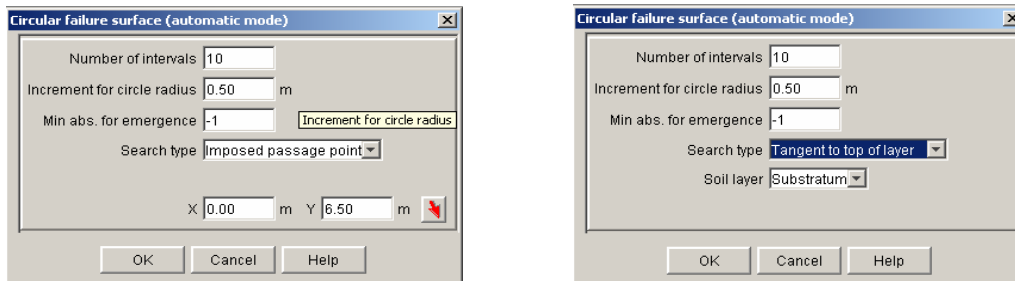

Figure 99: failure surfaces dialogue box: circular failure surfaces, automatic search
When clicking on the “Define failure surfaces” button, the dialogue box of Figure 99 is displayed.
- **Search type**: 2 choices are available (Figure 99): imposed passage point, and tangent to top of layer. This option is used to calculate the radius of the first circle associated with each centre. For the other circles associated with the same centre, the radius is determined by automatic incrementation (positive and negative) of the radius (and the criterion is therefore no longer applied).